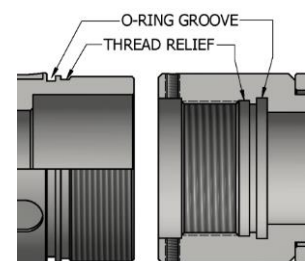

Fig. 2
- K-2.4) Unscrew and remove spring cage (5) from upper slip support (33).
- K-2.5) Remove spring retaining ring (28) from upper slip support (33).
- K-2.6.1) Wedge releasing slip (7) and upper slips (8) outwards (if needed). Unscrew and remove upper slip support (33) from upper slip body (6).
- K-2.6.2) Remove wedges (if needed). Remove releasing slip (7), upper slips (8), and upper slip springs (26) from upper slip body (6).
- K-3) Unclamp and remove inner mandrel (2) from vise.
- CAUTION6:** To ensure tool operates properly, install o-rings in o-ring grooves NOT thread reliefs (Fig. 2).
- L-1) Clamp inner mandrel (2) in vise.